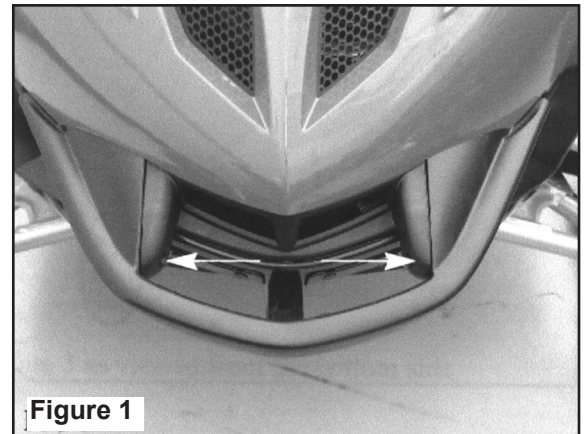

Figure 1
3. Remove the two hood hinge screws shown in Figure 1 and remove the hood. Account for the two bushings.